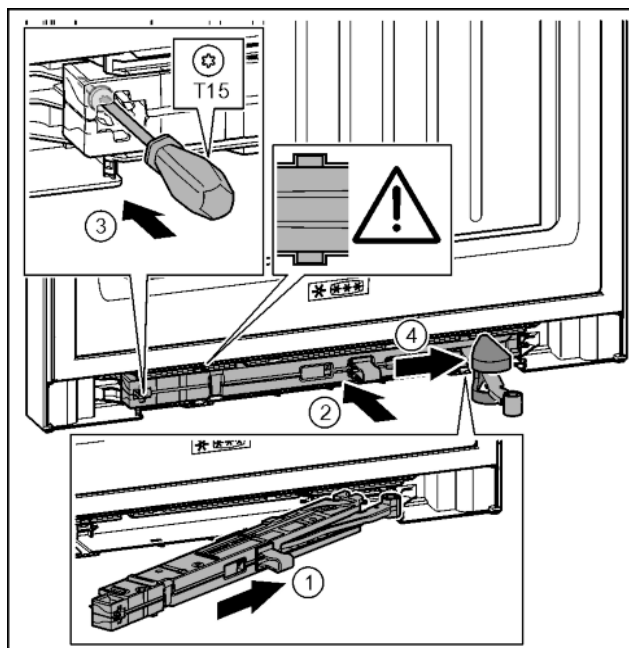

Fig. 38
- ▶ Slide the soft stop mechanism on the bearing bracket side at an angle into the slot as far as the limit stop. *Fig. 38 (1)*
- ▶ Slide the soft stop mechanism fully into the slot. *Fig. 38 (2)*
- ▶ Tighten the screw with the T15 screwdriver. *Fig. 38 (3)*
- ▶ Push the cover over the hinge. *Fig. 38 (4)*